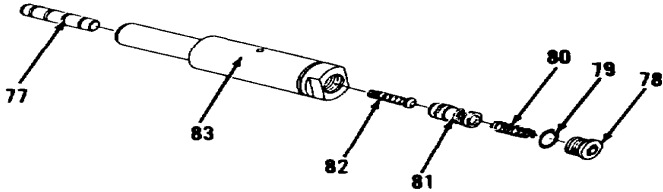
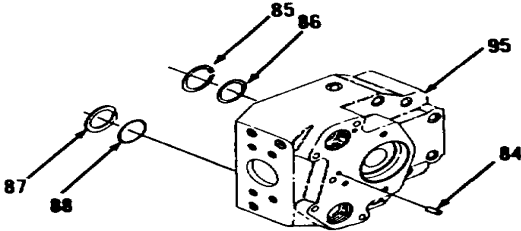
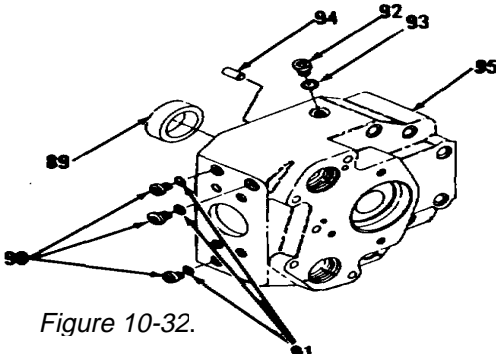

Figure 10-30.
Figure 10-31.
Figure 10-32.
- 35. Remove piston (77, Figure 10-30).
- 36. Remove plug (78).
- 37. Remove and discard preformed packing (79).
- 38. Remove spring (80) and pistons (81 and 82) from cartridge (83).
- 39. Remove two pins (84) from head (95, Figure 10-31).
- 40. Remove four rings (85), preformed packings (86), three rings (87) and preformed packings (88). Discard preformed packings (86 and 88).
- 41. Remove bearing cup (89, Figure 10-32).
- 42. Remove three plugs (90), preformed packings (91), five plugs (92) and preformed packings (93) from head (95). Discard preformed packings (91 and 93).
- 43. Remove two dowels (94) from head (95).